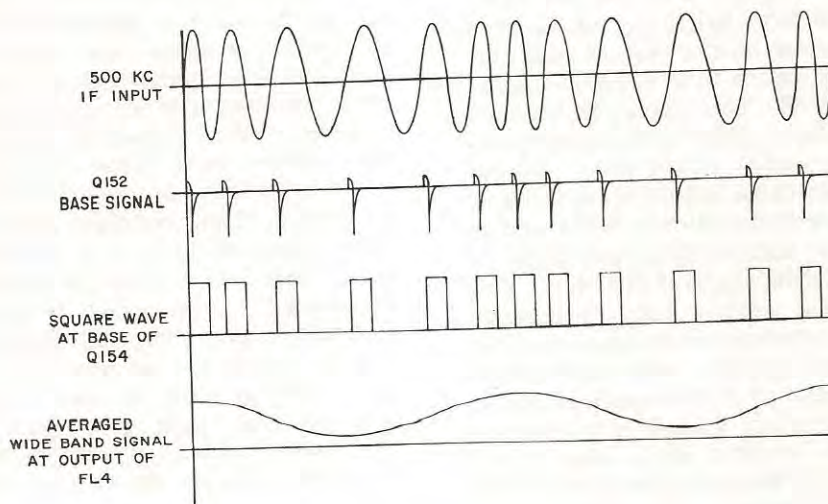

Figure 4-3. Pulse Counting Demodulator Waveforms with Sine Wave Modulation
4.3.1.2 PULSE COUNTING DEMODULATOR CIRCUITS. With S2 in the OFF position, the 500-kc mixer output is fed through CR150 to pulse generator Q150. This transistor, in conjunction with Q151, takes the sine wave input FM signal and changes it to a square wave whose polarity follows the input i-f signal polarity and phase. The square wave output of Q151 is then fed to a differentiating circuit consisting of capacitor C153 and R161. This circuit changes the pulse generator square wave output to positive and negative spikes which have leading edges with a sharp rise time. The negative pulses from C153 and R161 are blocked by diode CR151 so only the positive pulse is seen by the base of transistor Q152. Transistors Q152 and Q153 form a single shot multivibrator which produces a pulse with a fixed time length and magnitude each instant a pulse is received through diode CR151. The output from the multivibrator is then a series of pulses with a fixed length and magnitude whose spacing depends upon the incoming frequency. Figure 4-3